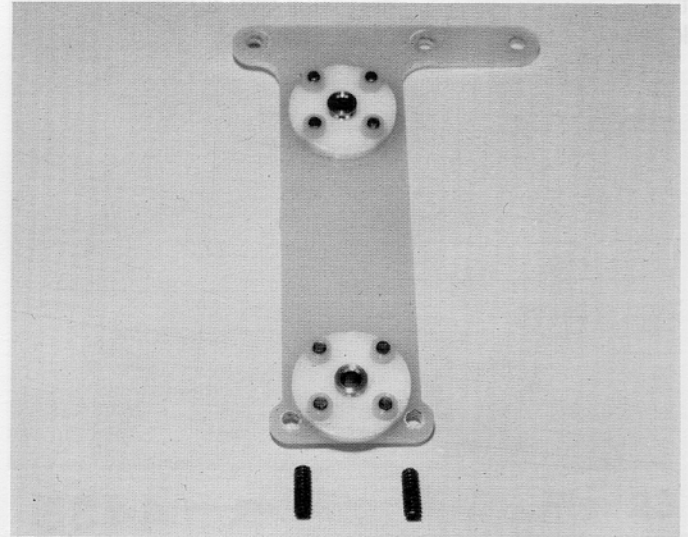

Fig. 15
□ **Fig. 15**—Install the two long set screws into the top of the T-bar where shown. Just screw them in far enough so they just start to come through the bottom side, but NO MORE.